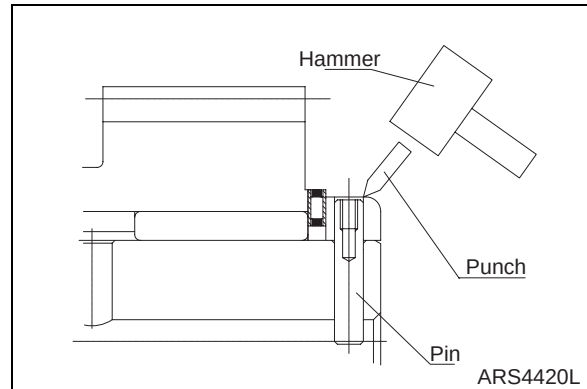
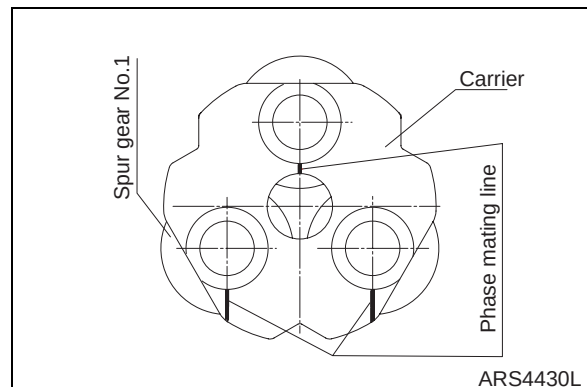

Figure 77
Figure 78
NOTE: Refer to Figure 77.
5. Check pin (12) hole of shaft (11) and pin (12) hole of carrier (9) by the naked eye. If holes are crisscrossed, align them using jig (6). Drive pin (12) to 1 mm (0.04 in) below the surface of carrier (9) by using hammer and jig (9).
Using a punch, close end surface of pin (12) hole of carrier (9) with two points 180° apart (Figure 77), to prevent pin (12) from coming out.
6. Install the remaining two cluster gears (6) by repeating the proceeding steps.
8. When installation is completed, draw lines on the upper surface of carrier (9) as shown in Figure 78, to make cluster gear phase easier. The three lines should all be parallel.